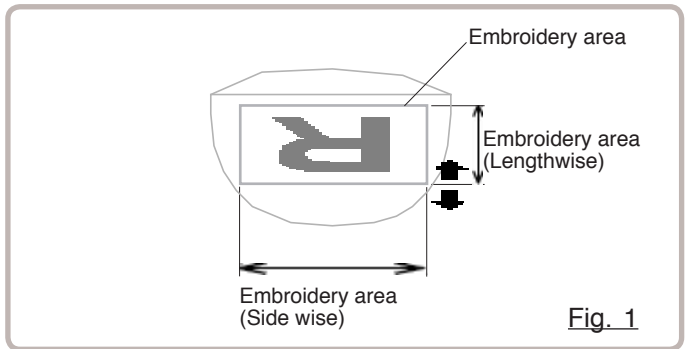

Fig. 1
The embroidery area for each registered frame is set to the inside of the frame edge to allow for pressure foot clearance. (Fig. 1)
The Y axis of the embroidery area can be adjusted for a variety of caps. (Fig. 1)
The embroidery area of each registered frame is set to the inside of the frame edge for pressure foot clearance. (Fig. 1, 2)
■ The embroidery area of each registered frame is set to the inside of the frame edge for pressure foot clearance. (Fig. 1, 2)